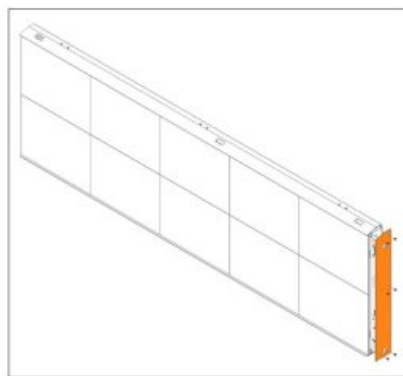

Figure 3: Install Border
3. Bring the border into position. The formed offset feature should be positioned to fit over the protruding alignment cone. Refer to Figure 3.